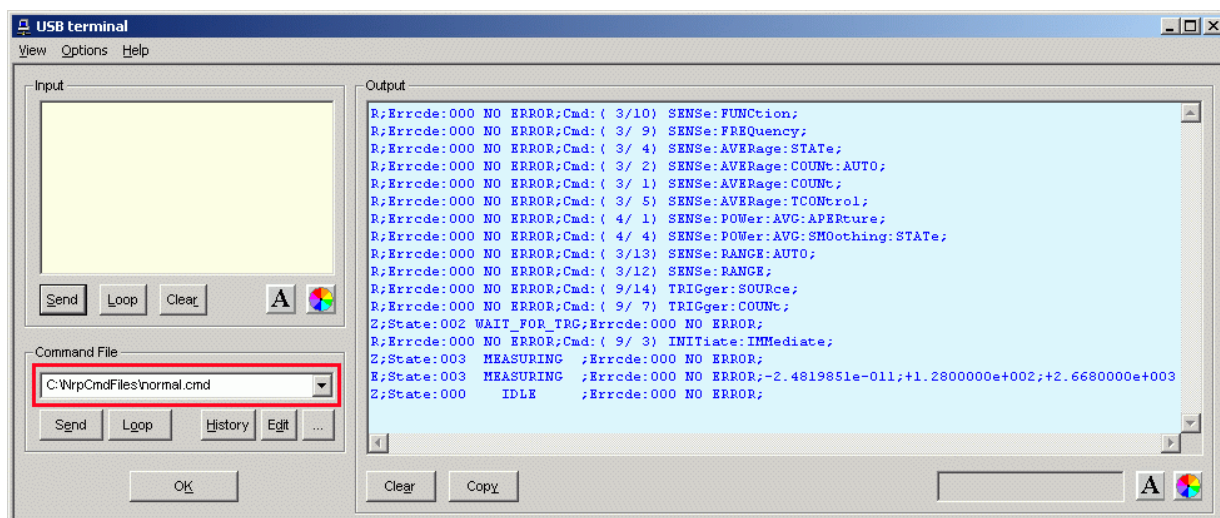

Fig. 3-2 Sending commands using command files
| Fig. 3-2 Sending commands using command files .....                                      | 3.2  |
- Commands or command sequences are stored in *command files*. Command files are created with a text editor, for instance, and then stored. They can be called as often as required (Fig. 3-2). The buttons of the **Command File** field are described in Table 3-2.